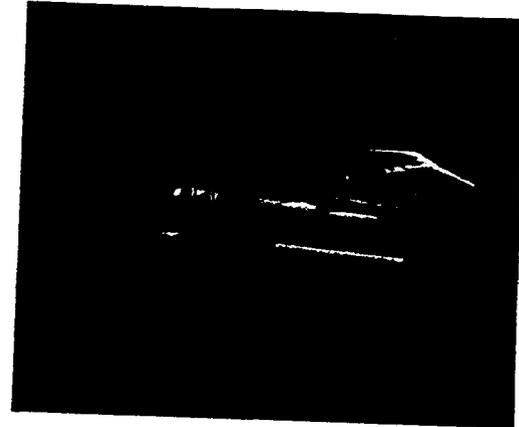

FIG. 58 MASS WIRE CUTTING
6.25 Slide the jaws of the R-4862 tool over the cutter-connector assembly and press the units together. This operation cuts the wires in the windows. See Fig. 58.